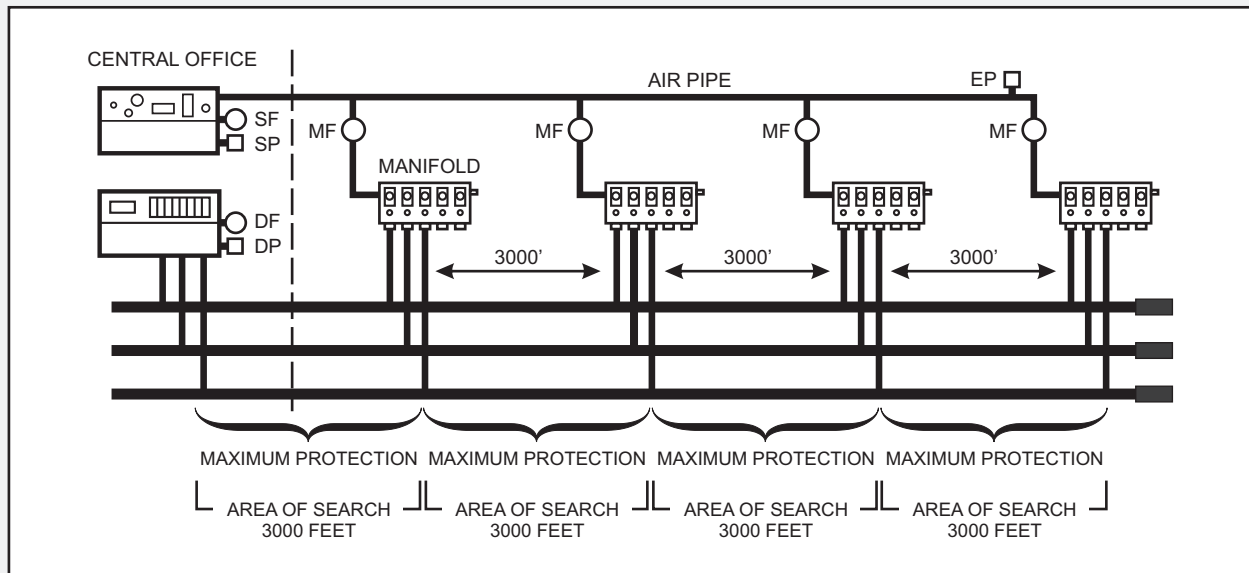

Figure 3: 3,000 Foot Manifold Spacing Design
- Is the BAPP better at protecting the cables? Yes, for the reasons stated in the segment above (after Figure 3).